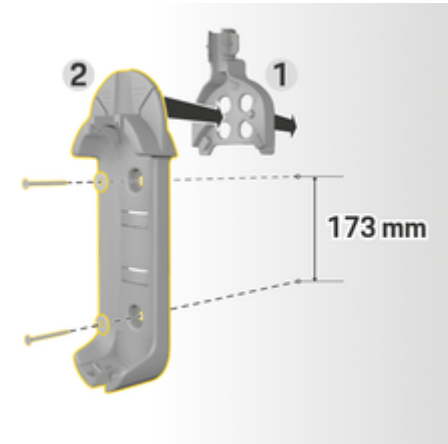

Fig. 13: Drilling dimensions
3. Press the basic wall mount **2** (Fig. 13) into the cable guide **1** (Fig. 13) from the front.